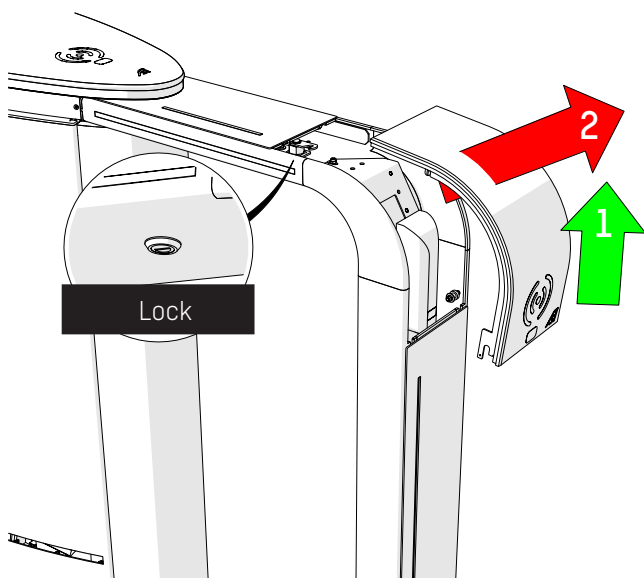

Fig. 80 - Removing the extension cover
2. Remove the cover (⇒ Fig. 80) :
3. Remove the cover (⇒ Fig. 80, page 72):